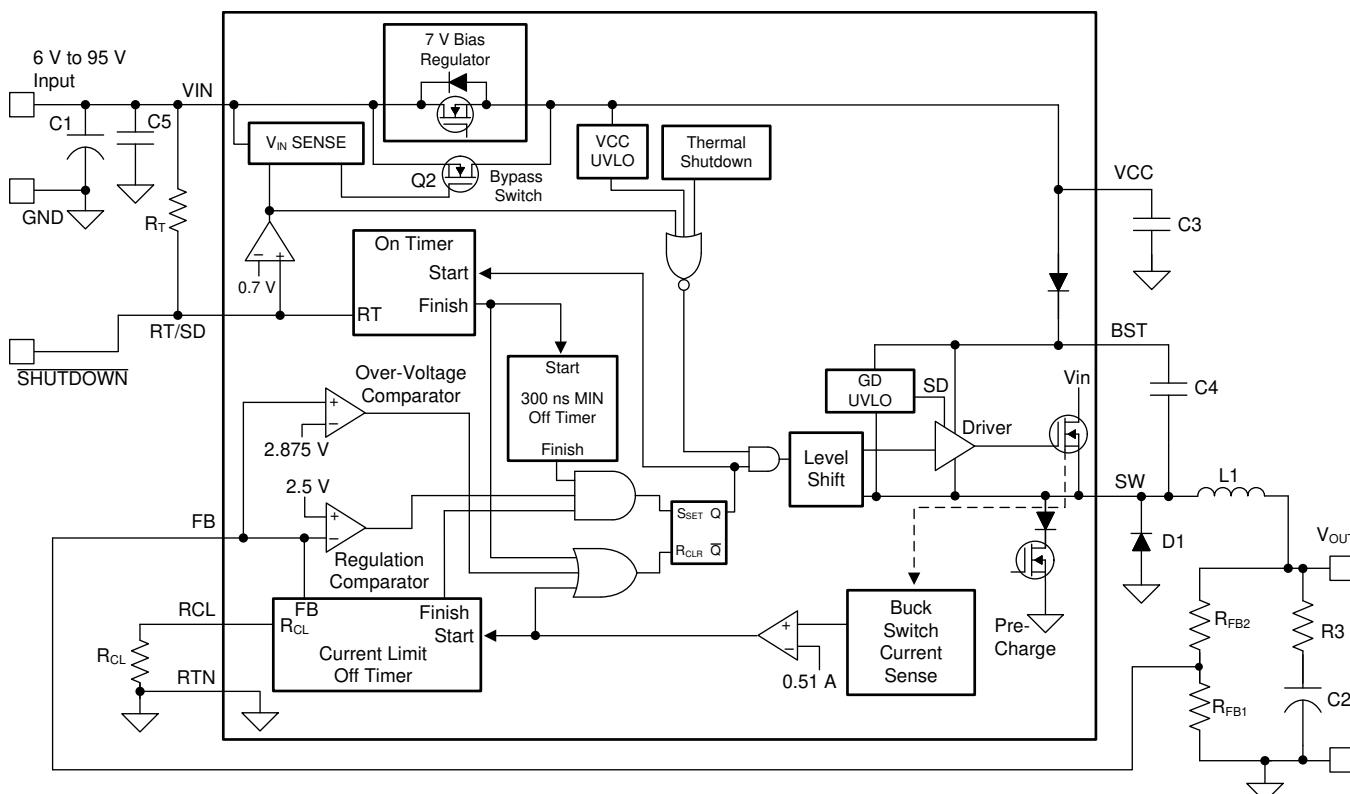

图 50. Functional Block Diagram
The output voltage ( $V_{OUT}$ ) is programmed by two external resistors as shown in 図 50. The regulation point can be calculated with 式 7.
The LM5008A regulates the output voltage based on ripple voltage at the feedback input, requiring a minimum amount of ESR for the output capacitor C2. A minimum of 25 mV to 50 mV of ripple voltage at the feedback pin (FB) is required for the LM5008A. In cases where the capacitor ESR is too small, additional series resistance may be required (R3 in the 図 50).
The high voltage bias regulator is integrated within the LM5008A. The input pin (VIN) can be connected directly to line voltages between 6 V and 95 V, with transient capability to 100 V. Referring to the 図 50, when  $V_{IN}$  is between 6 V and the bypass threshold (nominally 8.5 V), the bypass switch (Q2) is on, and  $V_{CC}$  tracks  $V_{IN}$  within 100 mV to 150 mV. The bypass switch on-resistance is approximately  $100\ \Omega$ , with inherent current limiting at approximately 100 mA. When  $V_{IN}$  is above the bypass threshold Q2 is turned off, and  $V_{CC}$  is regulated at 7 V. The  $V_{CC}$  regulator output current is limited at approximately 9.2 mA. When the LM5008A is shut down using the RT/SD pin, the  $V_{CC}$  bypass switch is shut off regardless of the voltage at  $V_{IN}$ .